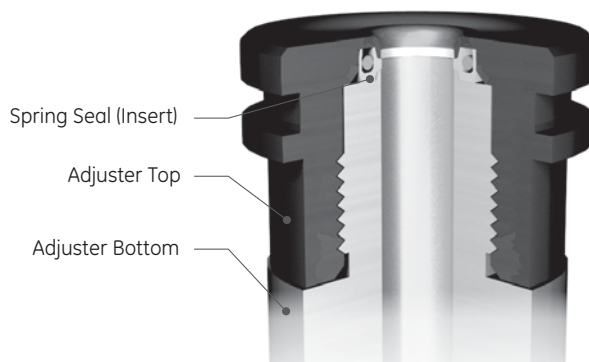

Figure 29: Adjuster Top Assembly
- ix. Inspect adjuster top to make sure that spring seal (adjuster top) did not flare out during installation and that the spring seal (adjuster top) is oriented as shown in Figure 29.